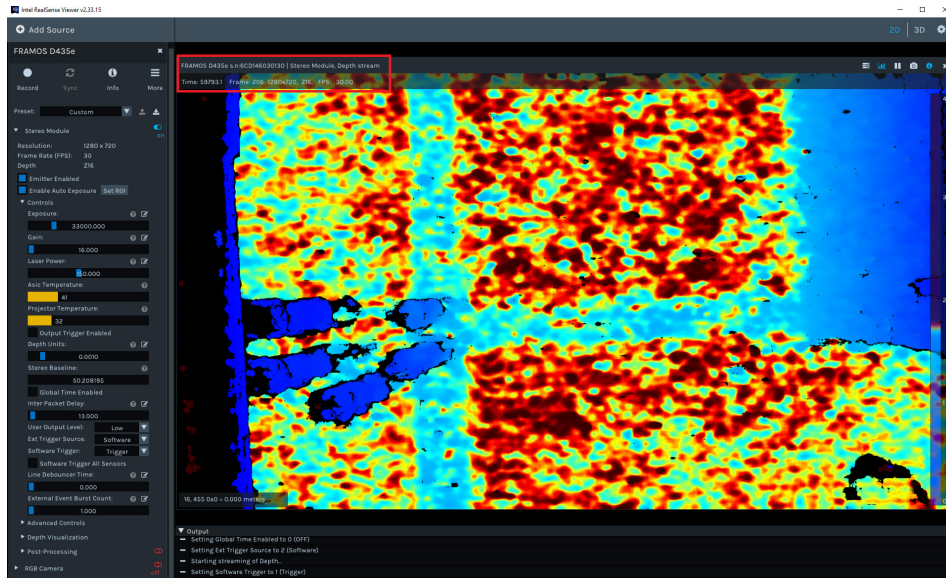

Figure 28 – Genlock issue for D400e series camera
5. Number of frames acquired on the host is less than expected 247 frames, as shown on Figure 28. In the presented case only 206 frames were acquired by the host.